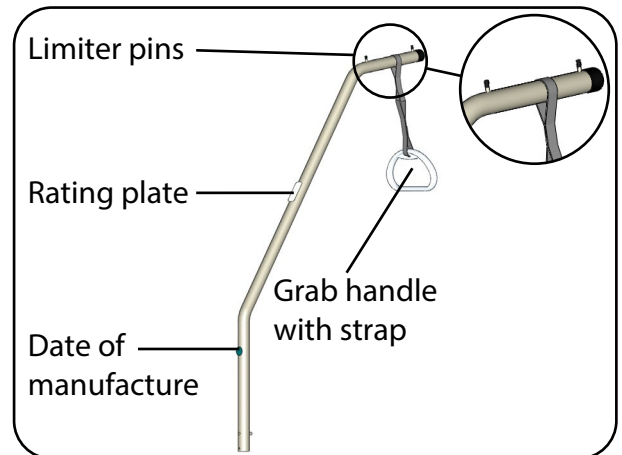

Fig. 6.3.02 – Uplifter with grab handle and strap
4. Position the strap's loop between the two limiter pins on the uplifter (Fig. 6.3.02).